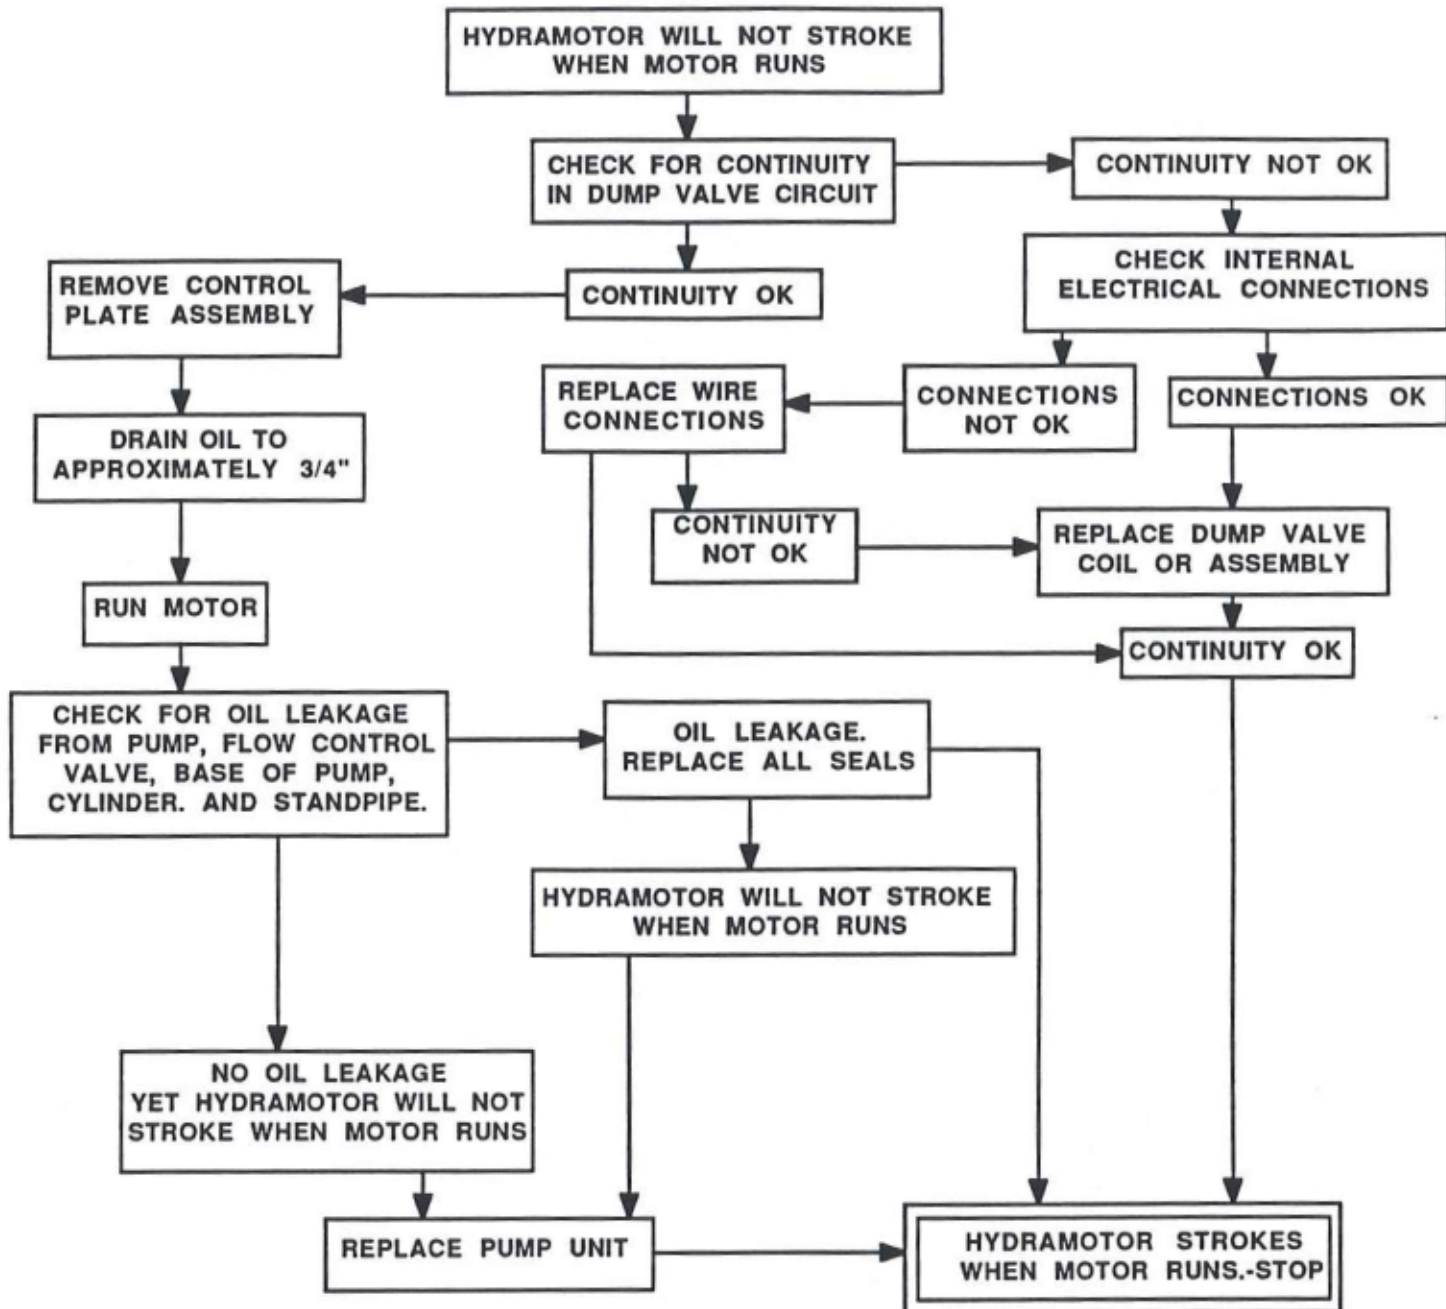

Figure 5-11A. Troubleshooting Guide. Motor Runs Properly
- 3). Loosen the two set screws (653) and remove the switch collar (652).
- 4). Remove the two slotted head screws that secure the limit switch (402) to the control plate. Remove the post and limit switch together (see Figure 5-11A and B).